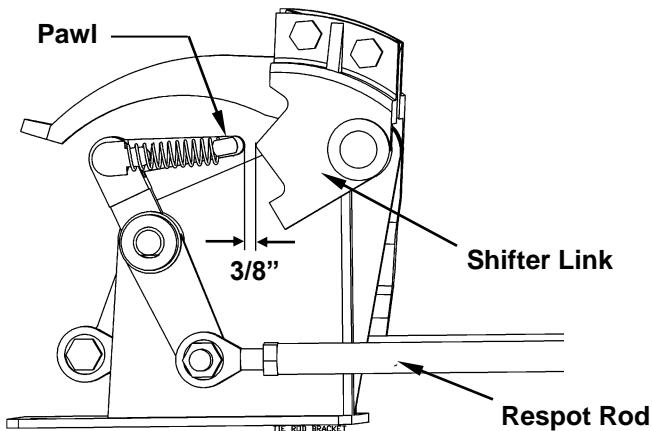

Figure 4.2-24
20. Close the respot cells slightly so that the center highest point of the shifter link is directly opposite the pawl (see Figure 4.2-24). Adjust the length of the respot rod so that the pawl clears the center highest point by 3/8 inch.